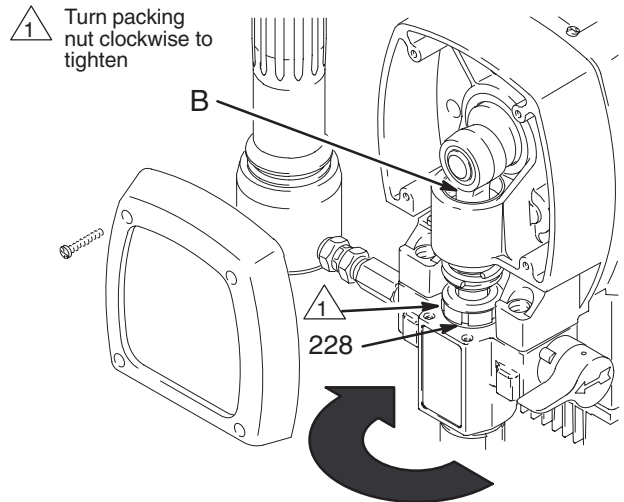

Fig. 10
3. **If pump begins to leak,** loosen packing nut and remove throat nut spacer (228). Tighten packing nut just snug. Over tightening causes binding and excessive packing wear. Use a round punch or brass rod and light hammer to adjust nut. Refer to Fig. 10. When leakage occurs again, repack pump.
5. **Lubricate bearing housing** after every 100 hours of operation. Remove front cover. Apply several drops of SAE 10 non-detergent oil in bearing housing cavity (B). See Fig. 10.